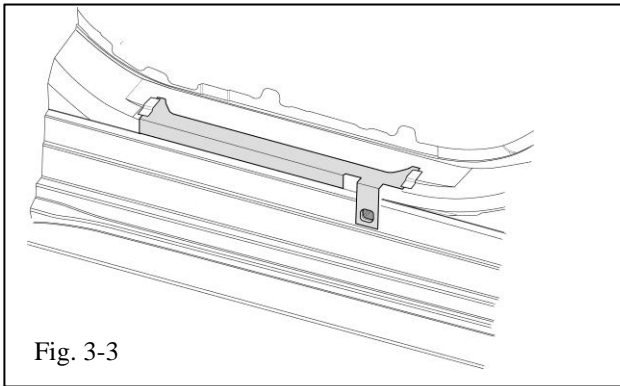

Fig. 3-3
- (d) Place template into position according Tape template in place. (Fig. 3-3)